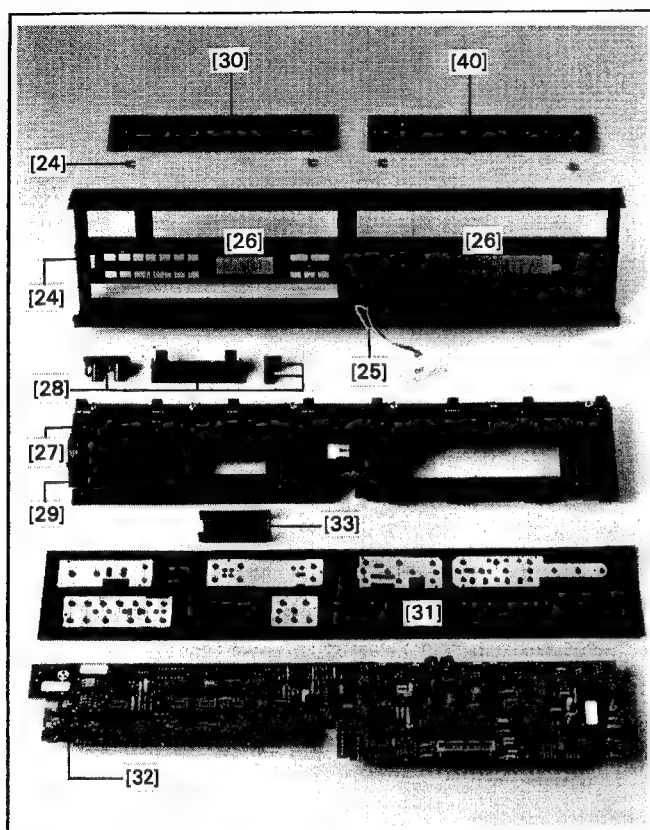

Fig. 2.8
The LC display (33) can drop out when you remove the MICROPROCESSOR BOARD! The glass piece rests on two conductive rubber strips (34) which in turn rest loosely on the MICROPROCESSOR BOARD (Figs. 2.8, and 2.9).